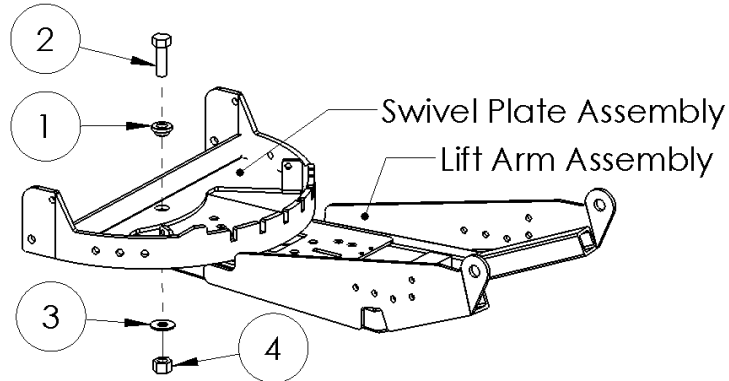

Figure 3
- 1) Connect the Swivel Plate Assembly to the Lift Arm Assembly via the 5/8" Bolt (#2), Washer (#3), Nylock Nut (#4) and pivot ring (#1) shown in **(Figure 3)**. Tighten the 5/8" hardware securely but do not over tighten such that the swivel plate no longer moves side to side.